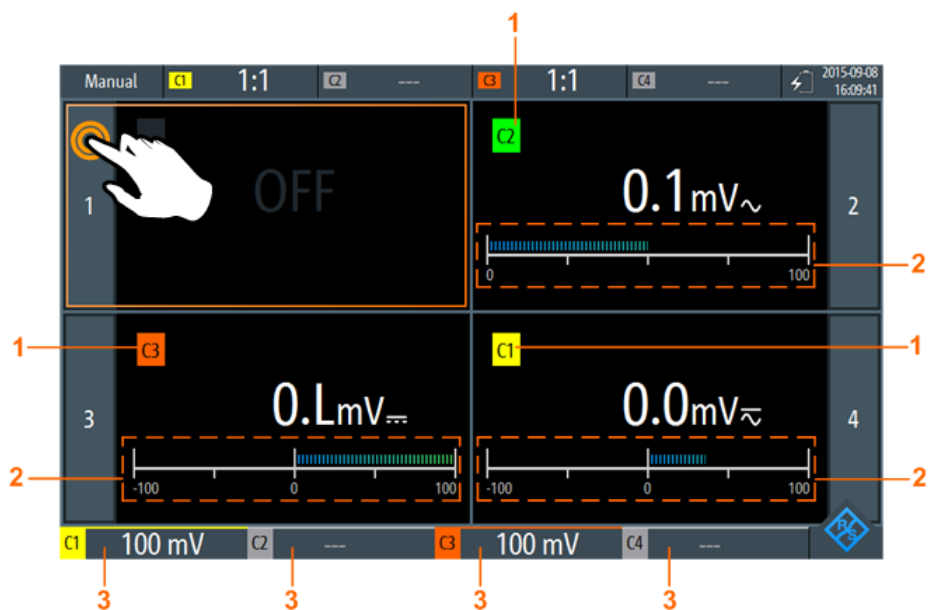

Figure 6-5: Four-voltmeter-view
- Tap the meter number as shown in Figure 6-5.